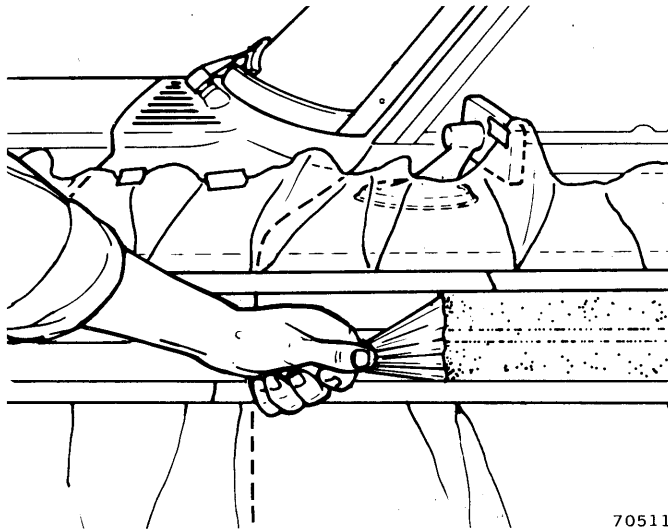
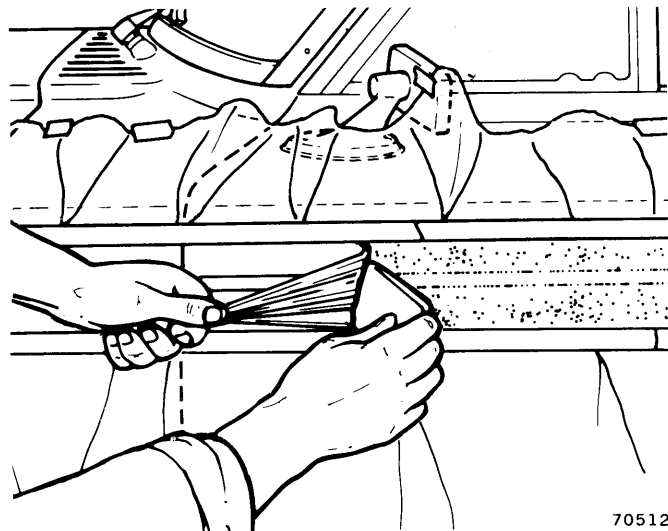

Fig. 20-11 Peeling Decal from Panel
Fig. 20-12 Using Squeegee to Assist in Removal of Decal
(5) Spray entire panel again, this time moving the spray up and down the decal.
(6) Allow remover to stay on decal for 20 minutes
(7) After 20 minutes, peel decal away from flange areas. Then, start in one corner and peel decal away from panel (fig. 20-11). If there is any difficulty in peeling decal/overlay away from panel, use squeegee to assist in removal (fig. 20-12).
(8) Scrape all 3M Woodgrain and Stripe Remover from surface before proceeding.